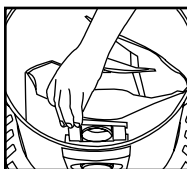

FIGURE 27
35. Slide the inlet deflector with the filter bag attached into the deflector guide. **FIGURE 27.**